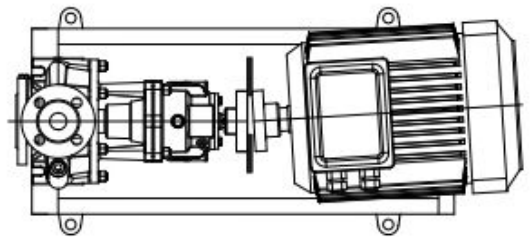

Figure 9a. Angle error in horizontal plane and adjustment
- In order to control the angular mistake, the distance between two parts of the coupling should be measured mutually on horizontal and vertical planes. The clearances measures at these four points should be equal (Figure 9a, 9b).
- Adjustment mistakes may be on the horizontal and/or vertical plane. Mistakes on the vertical plane may be made by putting thin metal sheets under the pump or motor mounts and the mistakes on the horizontal plane by benefiting from the gaps in the connection holes or sliding the engine on the horizontal plane. Manner and order of the coupling adjustment is shown in the Figures 9a, 9b, 9c and 9d, respectively.